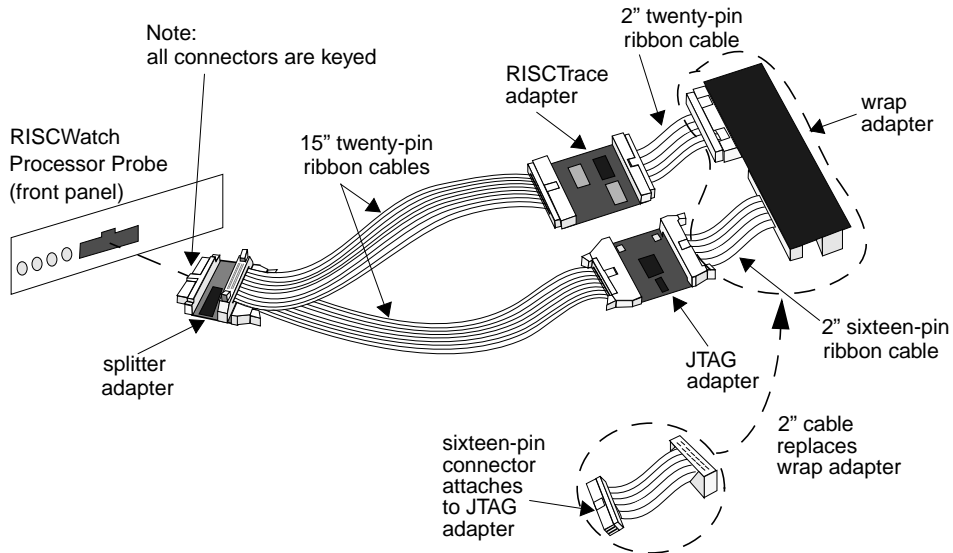

Figure 4-2. JTAG Adapter with RISCTrace Assembly
5. If your adapter assembly resembles Figure 4-2, you have what we refer to as a "JTAG adapter with RISCTrace assembly". To assemble the adapter assembly and cables, perform the following steps:
- a. Remove the "wrap" adapter, if attached to the cables. This requires disconnecting the 20 pin ribbon cable from the wrap adapter and the 16 pin ribbon cable from the JTAG adapter (See Figure 4-2).
- b. Attach the non-keyed side of the 2" cable to the 16 pin connector (See Figure 4-2).